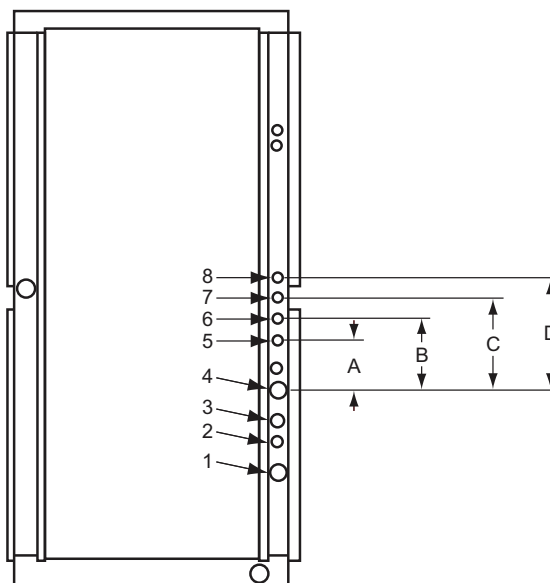

Fig. 8 — Refrigerant and Chilled Water Piping Access Holes
The 40RL direct-expansion units have internal factory-installed thermostatic expansion valves (TXVs), distributors, and nozzles for use with R-454B. See Table 9 for part numbers. Knockouts are provided in the unit corner posts for 40RL refrigerant piping. See Fig. 8, which also lists recommended knockouts and access holes to use for each 40RL unit size. Refrigerant and chilled water piping access hole data is listed in Table 10. Recommended fittings are listed in Table 11.
The 40RL Series units come with standard knockouts for refrigerant and chilled water piping. These knockouts are located on both sides of the unit for installation flexibility. The standard knockouts provide sufficient access to the unit's coils for all 40RLA*14, 16, 25, 28, and 30 units. 40RLQ*16 and 25 units, as well as 40RLS*14, 16, 25, 28, and 30 units require additional holes that must be field-fabricated to accommodate the piping. See Fig. 8 for the positions and dimensions of the additional access holes required for 40RLQ and 40RLS units. Recommended access hole use is also listed for all units. Note that Fig. 8 shows the access holes on the control-box side of the unit; this is the side of the unit with the coil headers, so it is used most often for piping access.
a. See Fig. 8 for access hole location by number.
Knockouts are provided in the unit corner posts for 40RLS refrigerant piping. Additional field-fabricated access holes are required for 40RLS chilled water piping. See Fig. 8, which lists recommended knockouts and access holes to use for each 40RLS unit size.